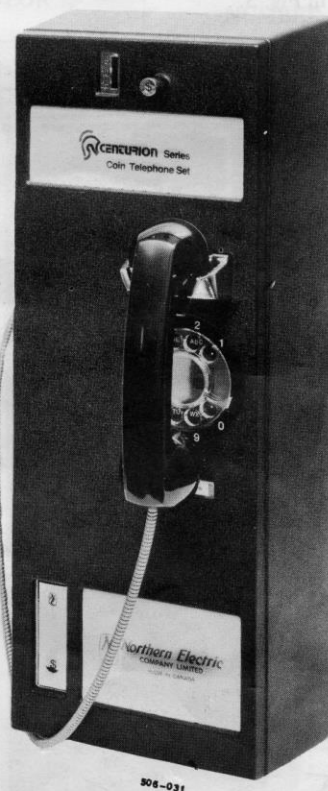

Fig. 1 – CENTURION Coin Telephone Set
2.01 The CENTURION coin telephone set type QSD400A (Fig. 1) is equipped with a rotary dial, and the type QSD2400A (Fig. 2) is equipped with a 12-button DIGITONE\* dial.